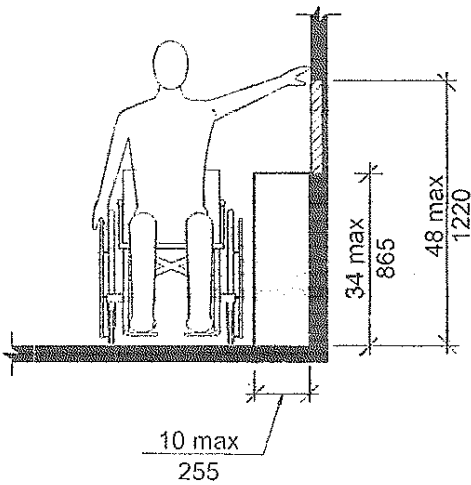

Figure 5
- Obstructed high side reach. If the side reach is over an obstruction, the reach and clearances shall be as shown in Figures 5 and 6.